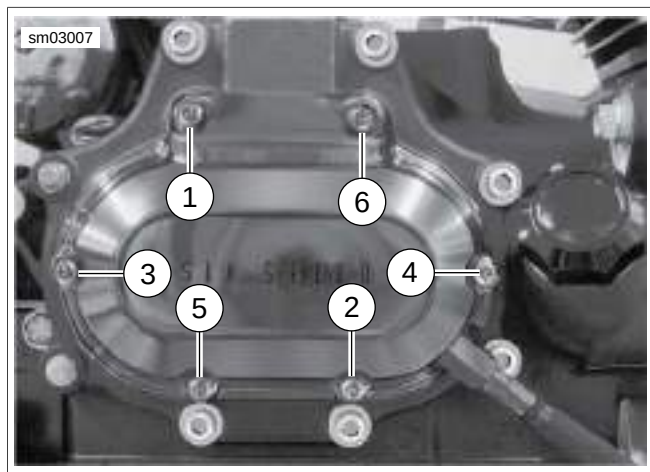

Figure 6-3. Cover Screws
4. See Figure 6-3. Remove the six screws that hold the clutch release cover in place. Remove the clutch release cover and discard the gasket.
See Figure 6-3. Clutch release cover screws in positions (1) and (6) are shorter than the others.
7. See Figure 6-3. Install clutch release cover. Tighten screws to 84-108 **in-lbs** (9.5-12.2 Nm) in sequence shown.